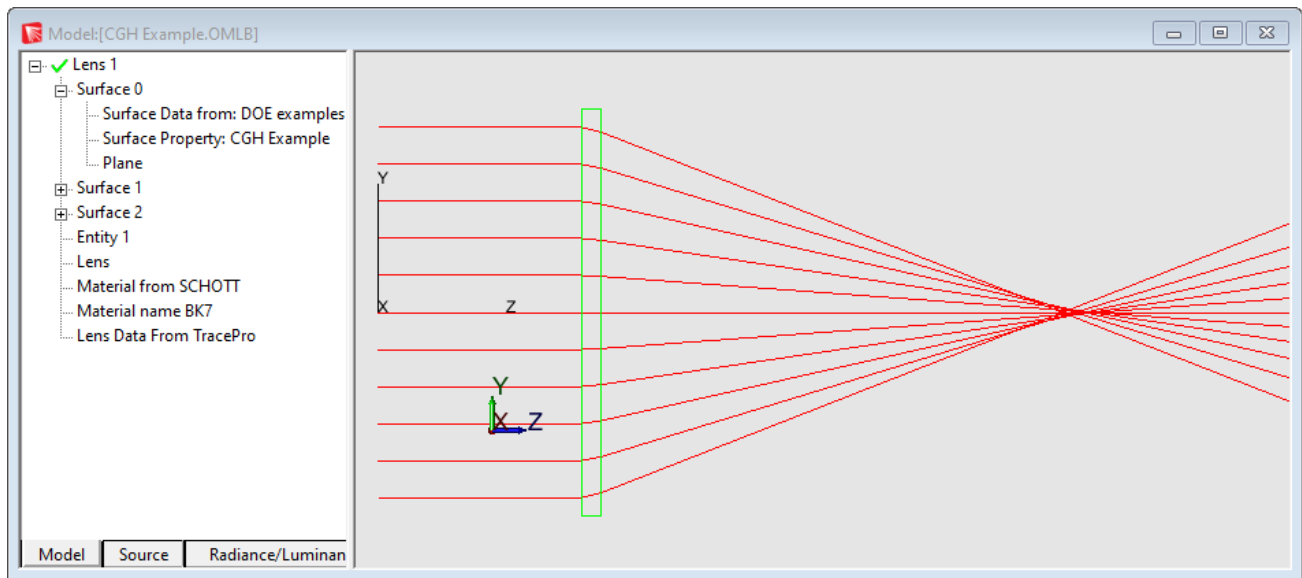

Figure 13. Rays traced through the Lens Element with example CGH surface property applied.
11. Trace rays and observe that the diffracted rays converge behind the Lens Element as shown in Figure 13.